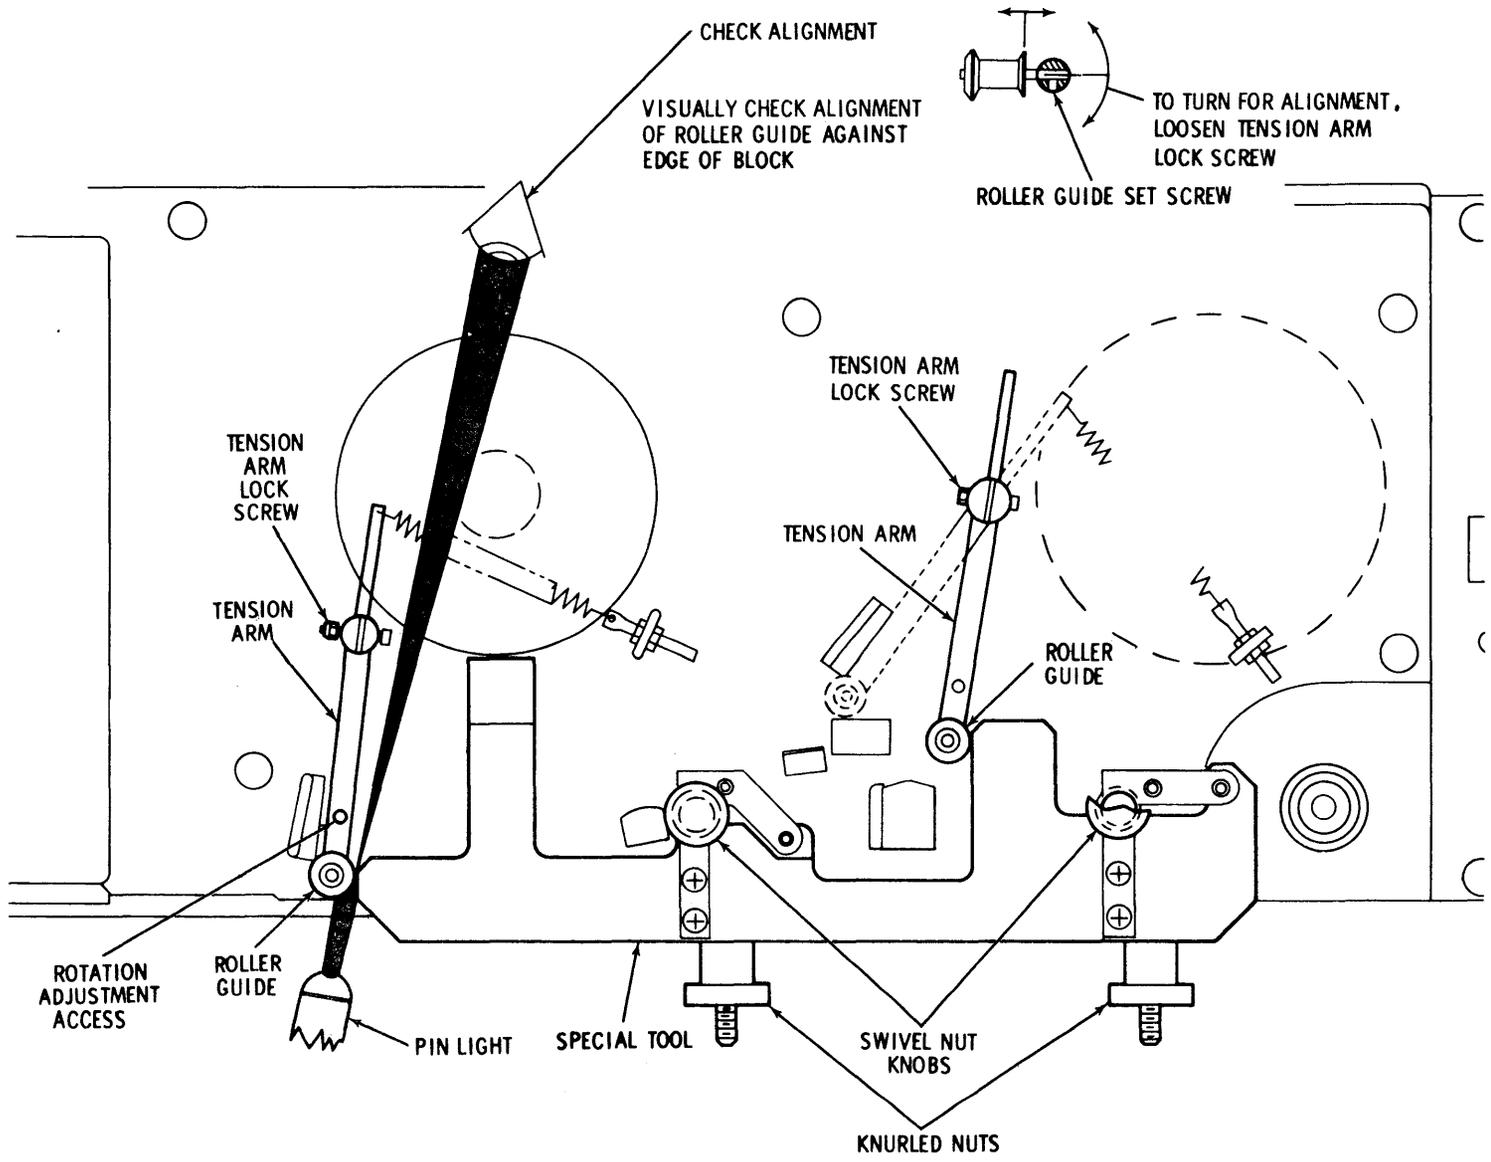

Figure 6-6. Tension Arm Guide Alignment
The use of this tool is illustrated in Figure 6-6. Alignment is accomplished as follows.*
- (1) Remove the overlay as described in Paragraph 6-46, Steps (1) through (5).
- (2) Loosen the two swivel nut knobs and the two knurled nuts (refer to Figure 6-6) and slip the special tool over the head guide caps.
- (3) Tighten the knurled nuts and swivel nut knobs in such a manner that the hinged clamps hold the tool's outside surface at right angles to the guide and in contact with the reference surface of the head guide caps.
- (4) Loosen the tension arm lock screw and the roller guide set screw on the supply (left) tension arm.
- (5) Rotate the supply tension arm until the tension arm guide mates with the end of the tool.
- (6) Clamp the guide shaft in place by tightening the set screw.
- (7) Adjust the parallelism of the guide and tool surface by twisting the tension arm with an Allen wrench inserted in the rotation adjustment access.
- (8) Illuminate junction of the roller guide and tool surface as illustrated in Figure 6-6. Visually check alignment.
- (9) Tighten the tension arm lock screw to 25 inch-pounds.
- (10) Adjust the take-up tension arm in the same manner as the supply tension arm.